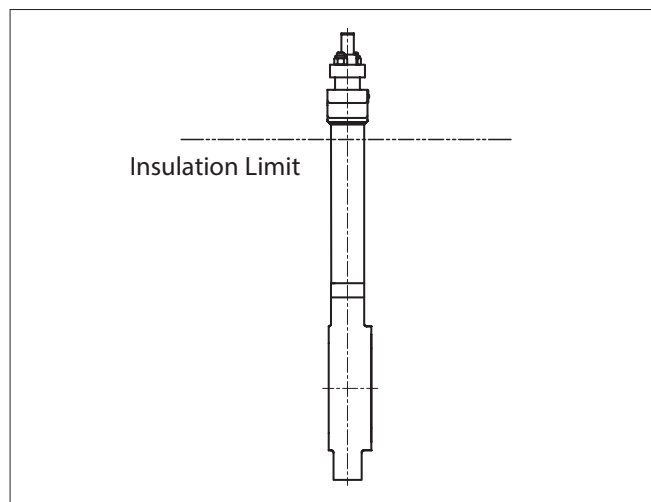

Figure 6. Insulation of the valve
7. It is not recommended to install the valve with the stem on the underneath side because dirt in the pipeline may then enter the body cavity and potentially damage the stem packing (see **Figure 6**).